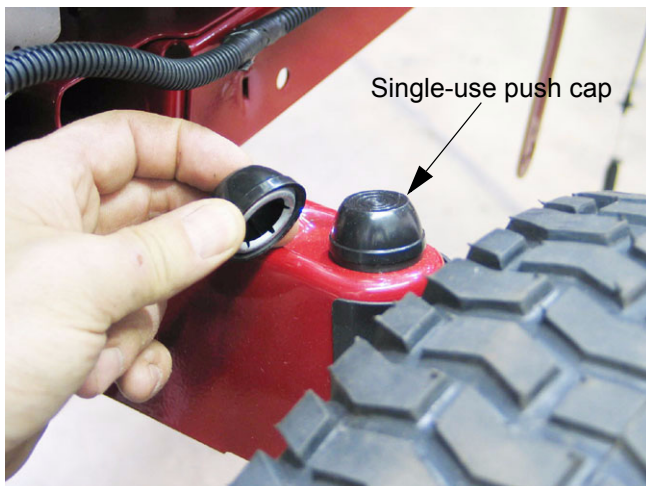

Figure 14.9
- 14.9. The left side axle bushing can be reached by prying-off the push-on cap. Discard the cap, and replace it with a new one on reassembly. See Figure 14.9.